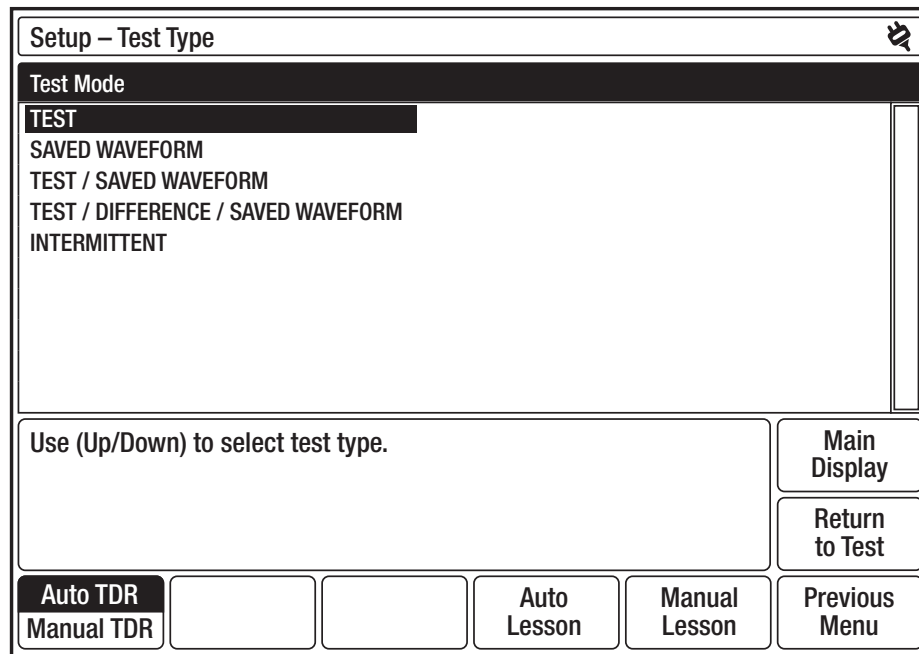

Figure 4-6: Setup – Test Type
- Next, press **Test Type** to display the **Setup – Test Type** menu to select Auto TDR (Figure 4-6).
To select a test type other than TEST, go to the **Setup – Test Type** menu (Figure 4-6). Use ▲▼ to select the test type.
3. Next, press **Test Type** to display the **Setup – Test Type** menu to select Manual TDR (Figure 4-6).